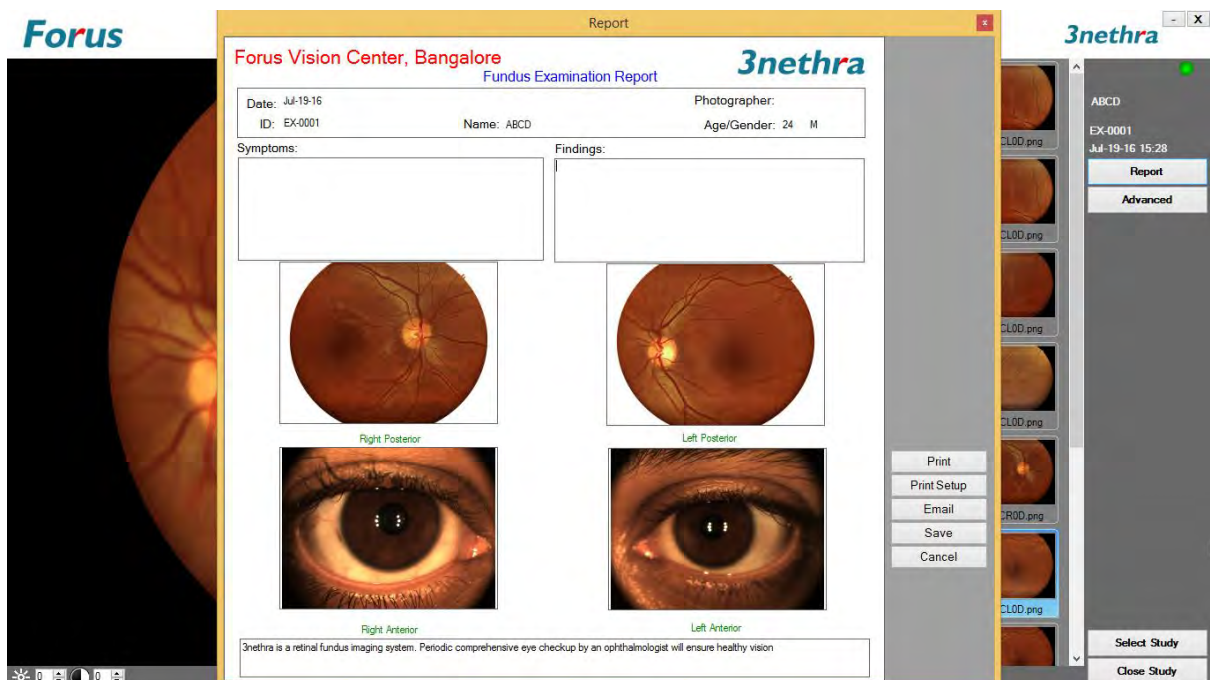

Figure 34: Default report template
- a. If you select the Default report template, a dialog opens as in Figure 34.